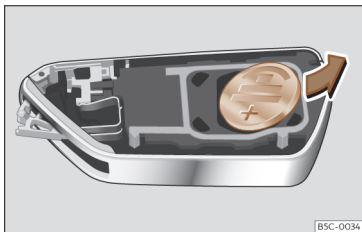

Fig. 73 Vehicle key: removing the battery.
- Remove the battery from the compartment with a suitable fine object >>> Fig. 73.
- Insert the new battery and press it into the battery compartment >>> ③.